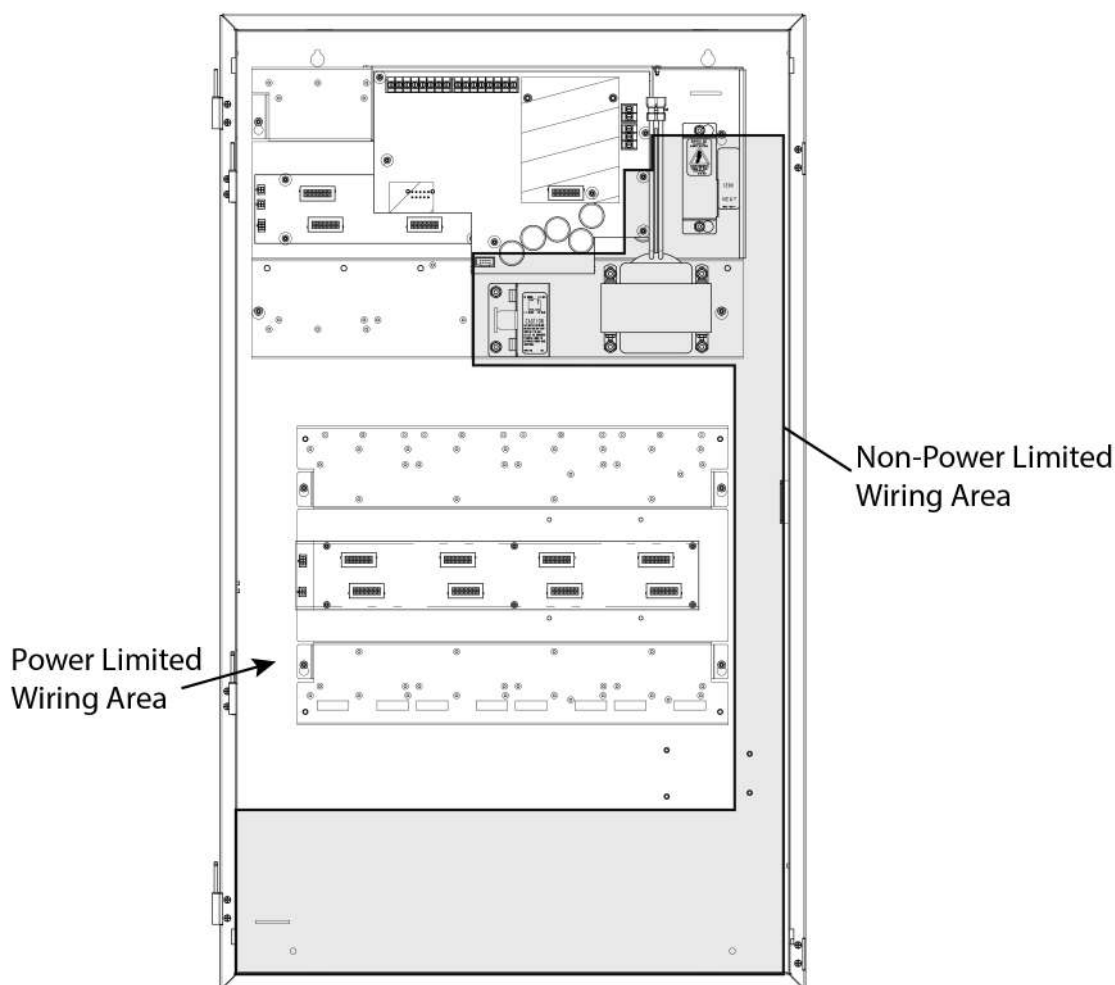

Figure 27: Field wiring guidelines
- Power-limited systems have entrance and routing restrictions for field wiring. See Figure 27 for more details.
- Non-power limited field wiring (AC power, batteries, city connection) must be installed and routed in the shaded areas shown in Figure 27.
- Power-limited field wiring must be installed and routed in the non-shaded areas shown in Figure 27, with the exception of city wiring.